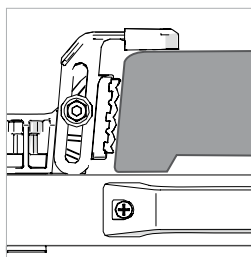

Fig. 19
If your saw base does NOT have a lip that protrudes under the clamp, then the secondary clamp **MUST** be attached to secure the base from the top. **(Fig. 19)**
- Place the chop saw onto the table with the right hand (RH) edge of the machine's base resting against the two fixed clamps.
- If necessary adjust the secondary clamps to provide enhanced positive location and extra grip to the upper surface of the chop saw base. **(Fig.19)** Tighten these in place using the supplied hex key.